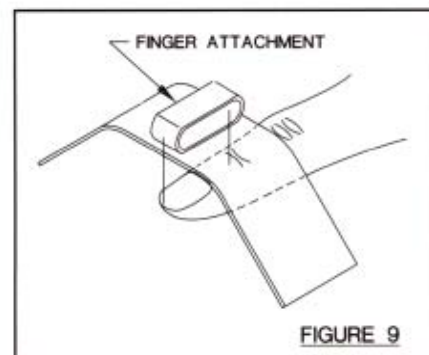

FIGURE 9
- 1 For composite or isolate DIP & PIP mode affix finger attachments to dorsal aspect of distal phalanx, aligning end of plastic slide with end of fingertip, see **Figure 9 page 9**.